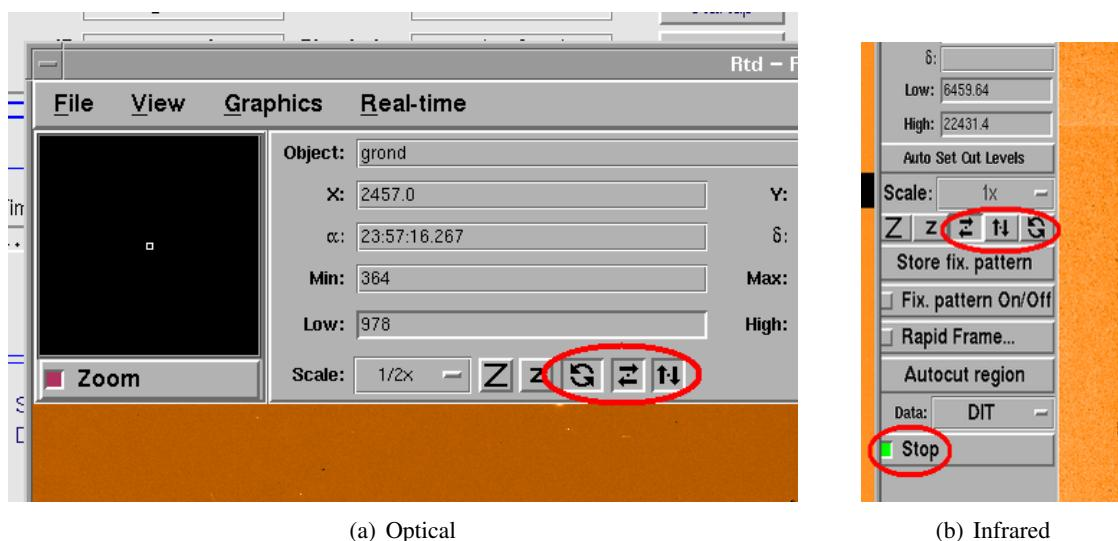

Figure 2.10: Correct sky orientation of the GROND displays. The infrared one is receiving data in real time (green checkbox).
- Check that image is flipped along both axes and rotated (see Fig. 2.10(a)).
The left column should have a green button with text Stop (see Fig. 2.10(b)).
- Check that the image is horizontally flipped (see Fig. 2.10(b)).